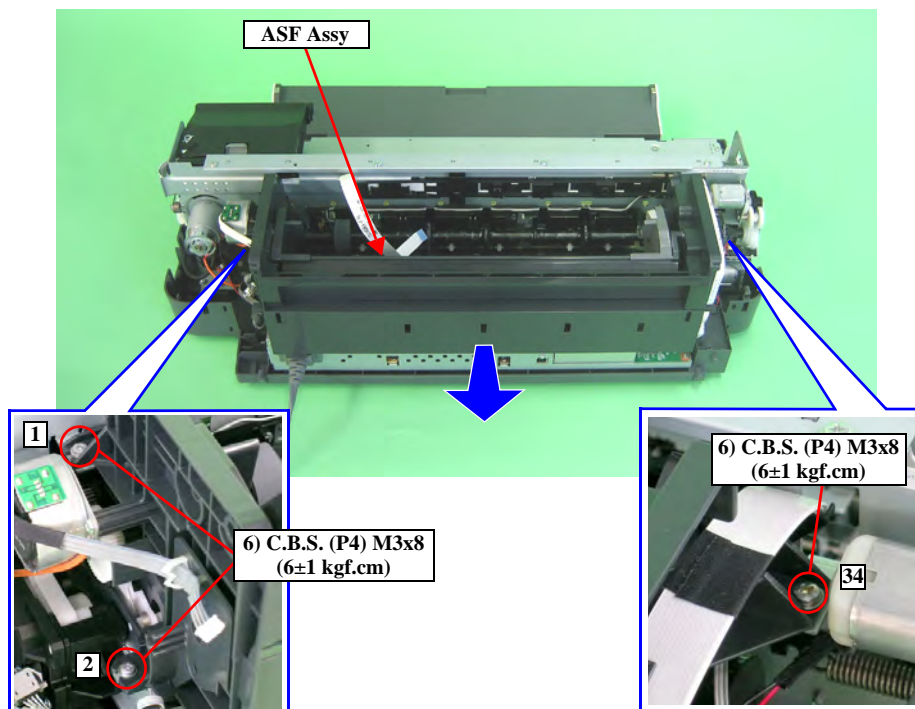

Figure 4-86. Removing the ASF Assy
- Tighten the screws in the order shown in Figure 4-86.